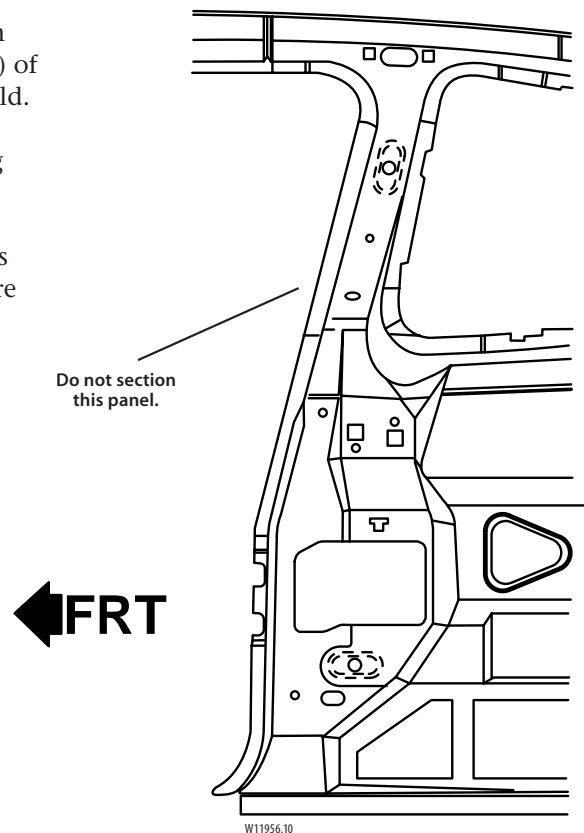

Figure 6-11:
3. Drill 8mm (1⁵/₁₆ inch) holes for plug welding in the service part in the locations noted from the original panel. Also, drill holes for plug welding along the sectioning cuts on both the service part and the original panel (figure 6-11). Locate these holes approximately 25mm (1 inch) from the edge of the sectioning cuts.